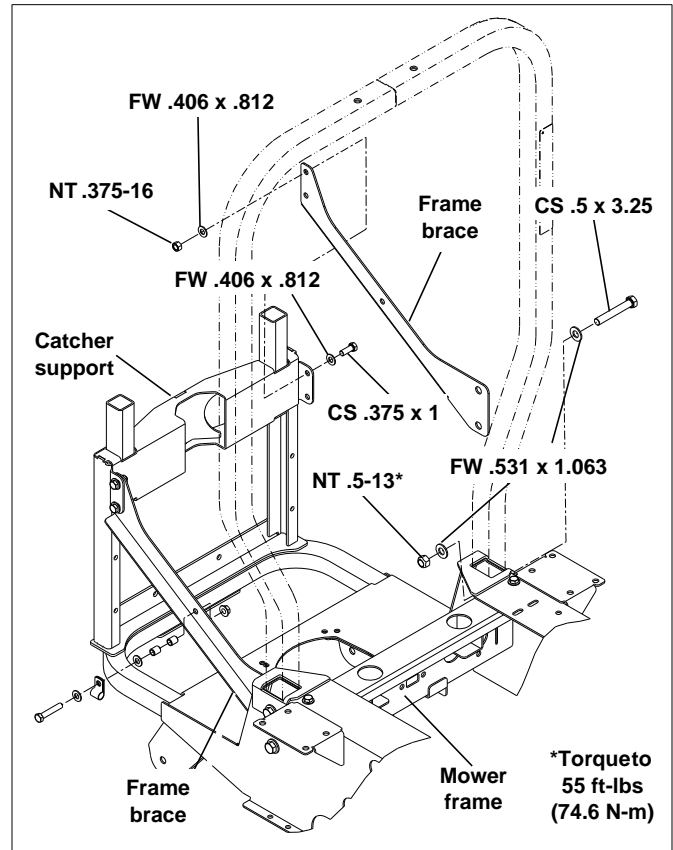

Figure 3-8
15. For mowers with serial numbers higher than 11010000 (frames **with** ROPS pockets), remove hardware attaching ROPS. Attach the right and left frame braces to the catcher support and the mower frame, using supplied hardware. Torque hardware to 55 ft.-lbs (74.6 N-m). Figure 3-8